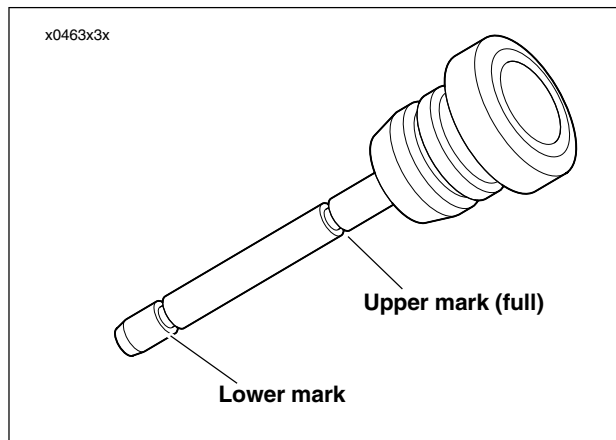

Figure 1-1. Oil Tank Filler Cap/Dipstick
4. See Figure 1-1. Remove filler cap and check warm oil level on dipstick. Dipstick has two marks. If oil level in tank is at or below lower mark, add one quart (0.946 liter) of Harley-Davidson oil to tank.
- See Figure 1-1. Use worm drive clamp to secure oil tank drain hose to lug on muffler mount.